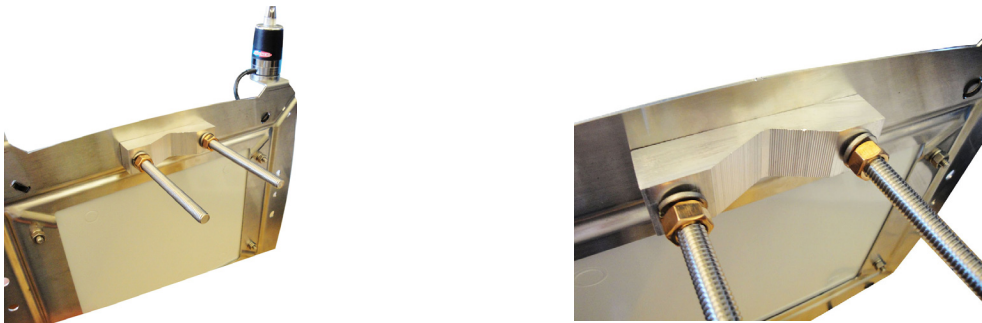

Figure 3: Attach Hardware
2. Place two bolts (3/8-16 x 5 inches) through the holes in the top of the network gateway transceiver mounting backplate (Figure 3). Use the side holes for horizontal installation.